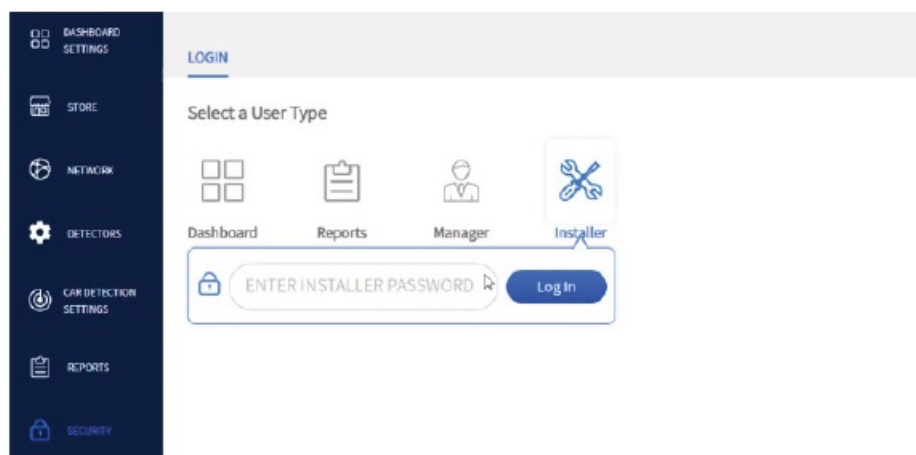

Fig. 5.4
- Log in as an Installer using the installer pass-word. See Fig. 5.4.